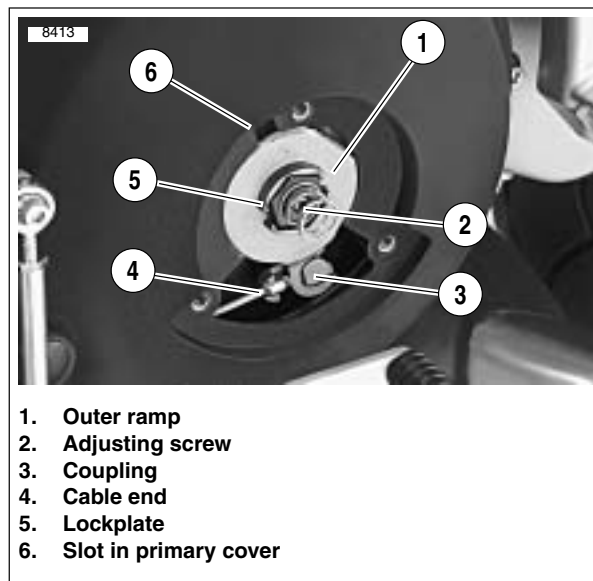

Figure 6-11. Nut and Outer Ramp (Typical)
2. See Figure 6-11. Install ramp assembly.